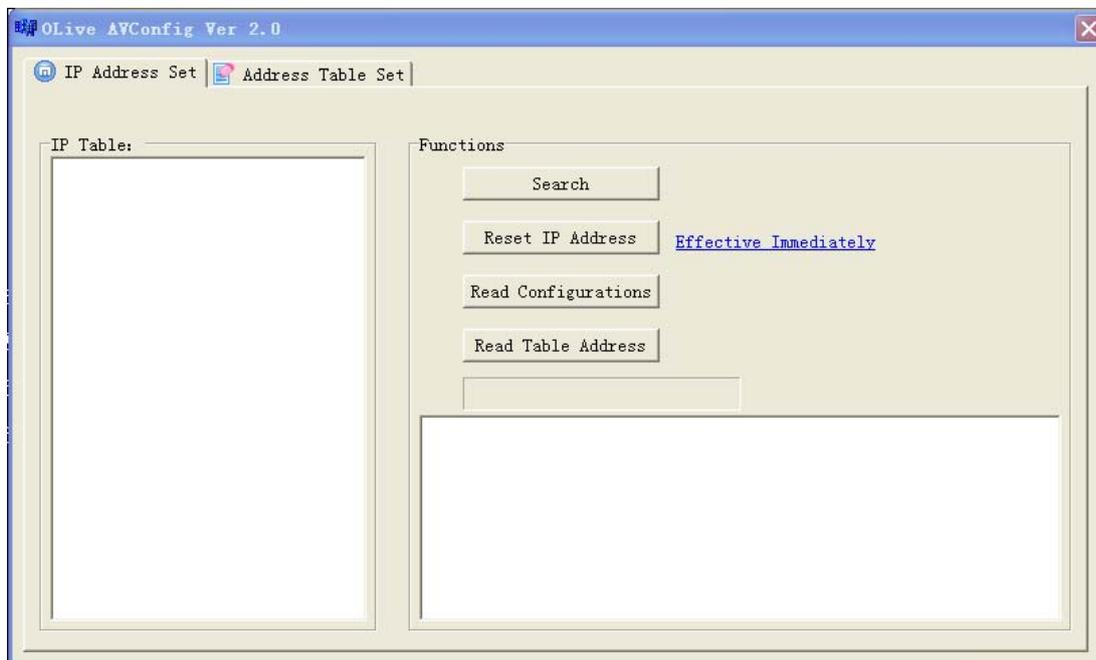

Figure 14
- ✧ Start AVConfig Software(Figure 14) and change parameters as following steps;